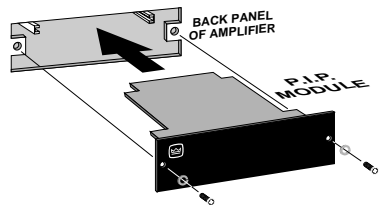

Fig. 3.4 Installation into a Standard P.I.P. Amplifier
3. **Standard *PIP* Amplifiers:** Align the edges of the *P.I.P.–BP1* in the *P.I.P.* card rails and firmly push the unit in until it is seated against the mounting bracket (see Figure 3.4).